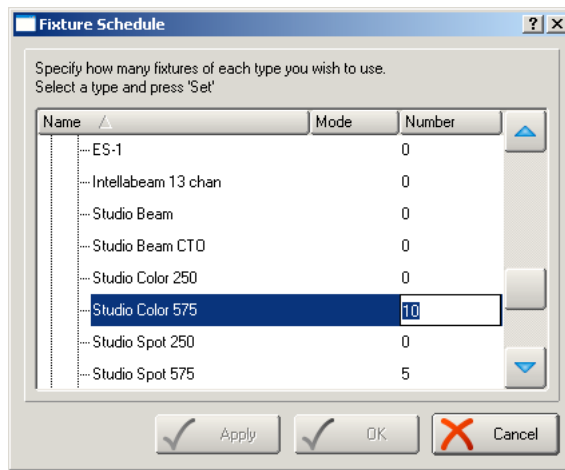

Figure 14.2. The Fixture Schedule window
You add fixtures using the Fixture Schedule dialog within the Fixture window; see Figure 14.2, “The Fixture Schedule window”. The Number column shows the number of fixtures of that type currently in the show. Any mode options are shown when you select the fixture type.
2. Press the Fixture Schedule button in the top left hand corner of the Fixture window. The Fixture Schedule window will open with a list of fixture personalities in the current Fixture Library; see Figure 14.2, “The Fixture Schedule window”. Each fixture is listed under its manufacturer,